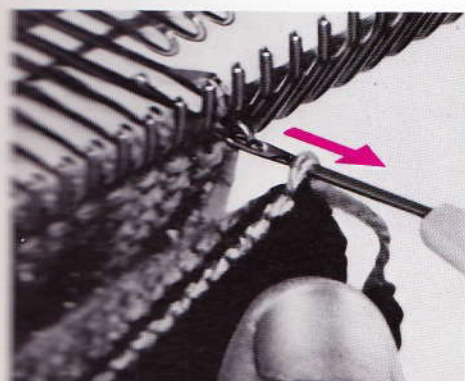

Fig. 57
2. Cast on by the open edge method (see pages 17 and 18) using waste yarn (dark coloured yarn in fig. 57), that is with any fine yarn in a different colour from the main yarn, (light colour yarn in fig. 57). Place the removable cord.
- Hook the transfer tool onto the hook of the 2nd needle on the right-hand side (fig. 57). **Note :** The first needle is left as there is always 1 loop fewer to be picked up than there are needles.